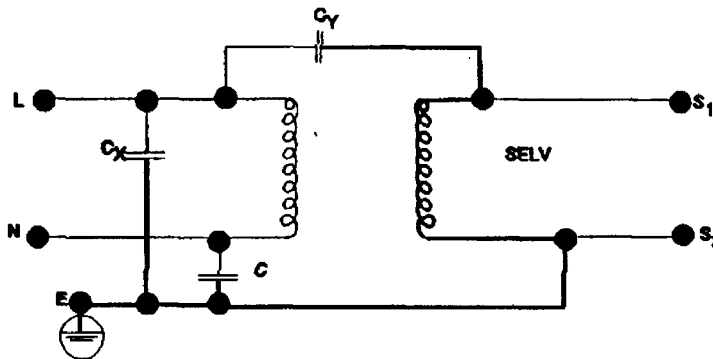

Fig. 2A
When capacitors and resistors bridge basic insulation provided between live parts and earthed parts and earthed SELV circuits, the current through the earth conductor must not exceed 3.5 mA. In this case equipment should be reliably connected to earth. It is important to remember that the whole of this leakage current passes through the earth conductor. See Figures 2A, 2B and 2C.
- The circuit shown in Fig 2A is acceptable with a single Y-capacitor only if the ground path, including the winding, is an acceptable ground path. The leakage current limit can be up to 3.5 mA.